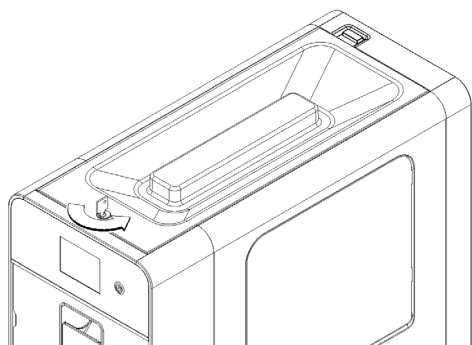

figure 15
- If the cover is fitted with a safety lock, turn the key anti-clockwise. (see figure 15)
If the cover is fitted with a safety lock, turn the key anti-clockwise and remove it. (see figure 15)